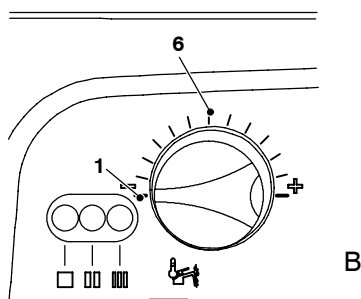

Fig. 41
It's now possible to check the current setting by pressing reset button C for more than 5 seconds. The three lamps E will flash a number of times corresponding to the setting as in Fig. 41 (once for the combination and four times for system boilers). At this point only the right green light flashes.
- 11 To change the setting turn the knob B on a position corresponding to the boiler model (Fig. 41).